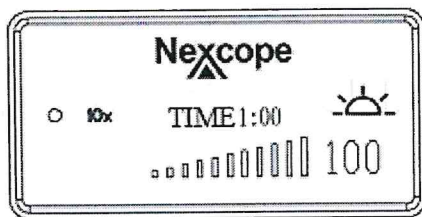

Fig.6
2. Long press the knob for 3s : choose to set sleep (Fig.6), and the value of minute starts to beat. The value of hours starts to beat after clicking the knob. The time can be increased or reduced by turning the knob. The increase or decrease of lattice value is 1 minute and the maximum value can be set to 8 hours. After setting to the required time, the time number beats three times and then stops beating, which means the setting is successful. Time begins to decrease by minute;